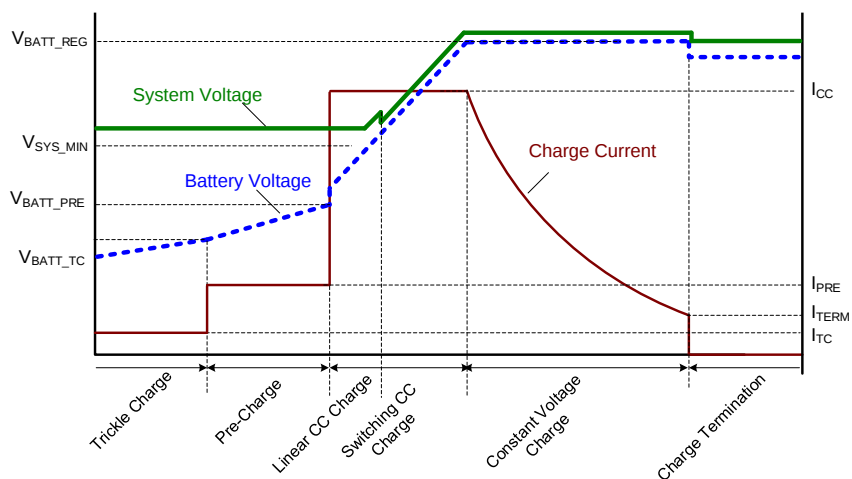

Figure 8: Charge Profile in NVDC Mode
The device provides four main charging phases: constant current trickle charge, constant current pre-charge, constant current (CC) fast charge, and constant voltage (CV) charge (see Figure 8 on page 24).